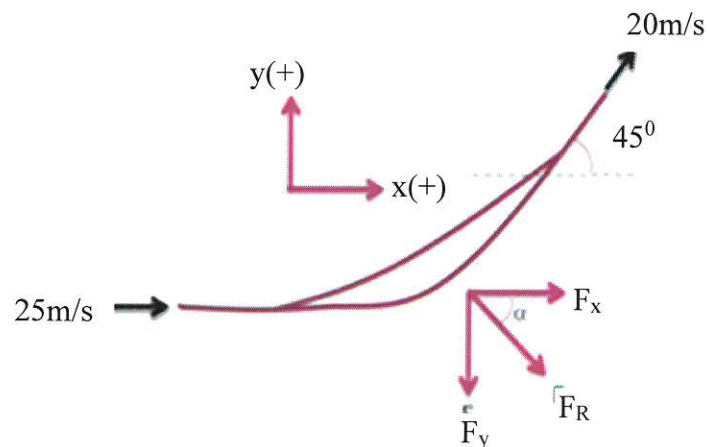

Figure B4(c) / Rajah B4(c)
- (c) A water jet with 50 mm diameter and having a velocity of 25m/s enters tangentially a stationary curved vane without shock and is deflected through an angle of 45° shown in **Figure B4(c)** below. Calculate the magnitude and direction of the resultant force on the vane.